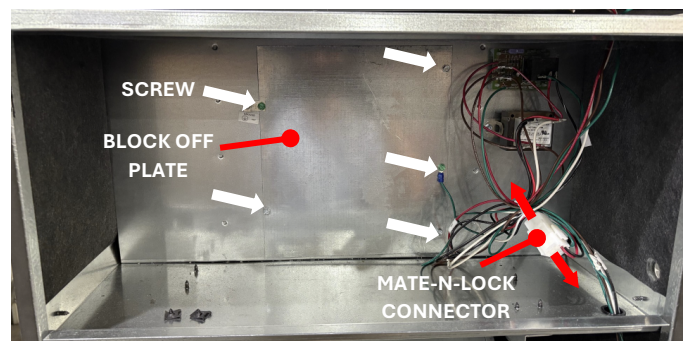

FIG. 2
- 4) Unplug the Mate-n-Lock connector and Remove block-off plate or existing heater kit from air handler by removing 5 screws (see FIG. 2)